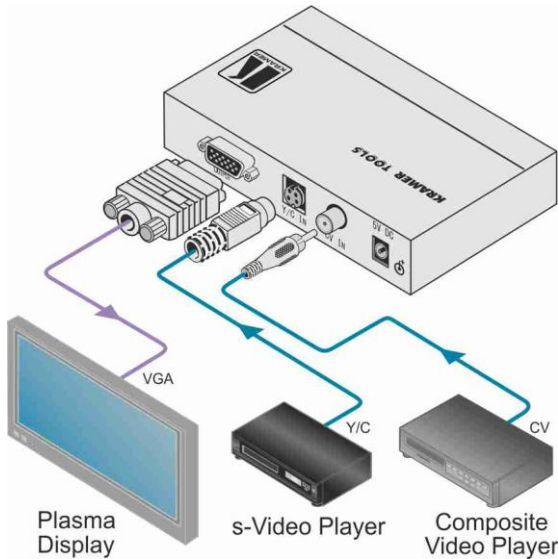

Figure 2: Connecting the VP-409 Video to WUXGA Scaler
3. Connect the 5V DC power adapter to the power socket and connect the adapter to the mains electricity (not shown in Figure 2).